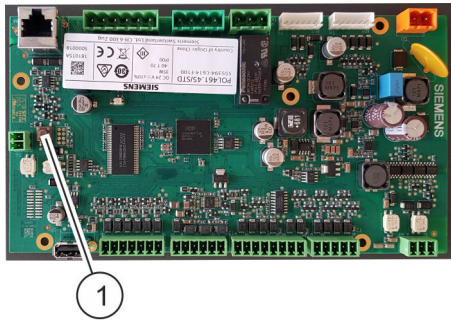

Fig. 12: Service button
4. ➤ Press and hold the service button (Fig. 12/1).